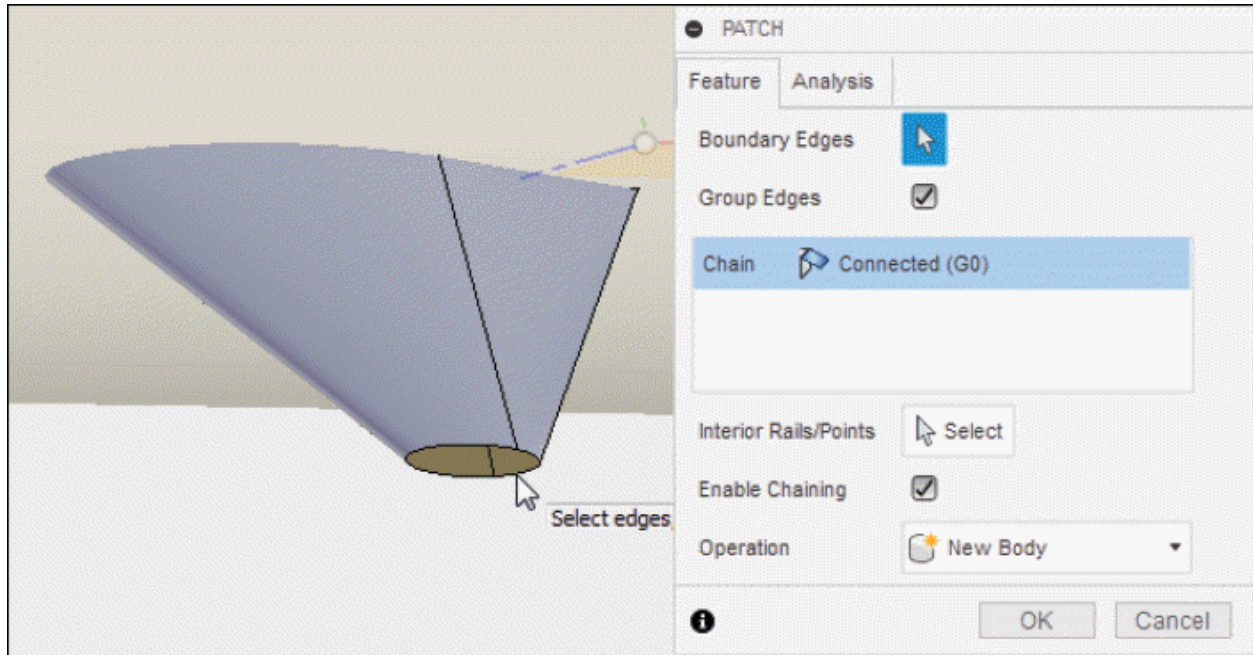

Figure-61. Applying patch on wing
- Click on **Patch** tool of **CREATE** drop-down in **SURFACE** tab from **Toolbar**. The **PATCH** dialog box will be displayed; refer to Figure-61.